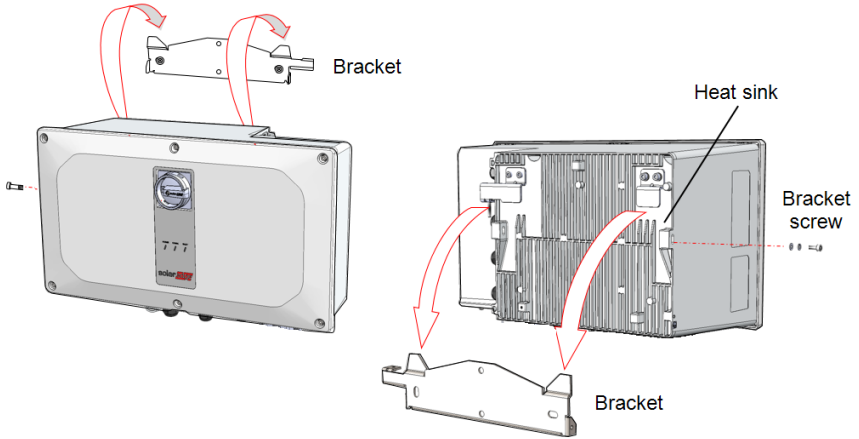

Figure 17: Hanging the Synergy Manager
- Align the two indentations in the enclosure with the two triangular mounting tabs of the bracket, and lower the unit until it rests on the bracket evenly (see *Figure 17*).